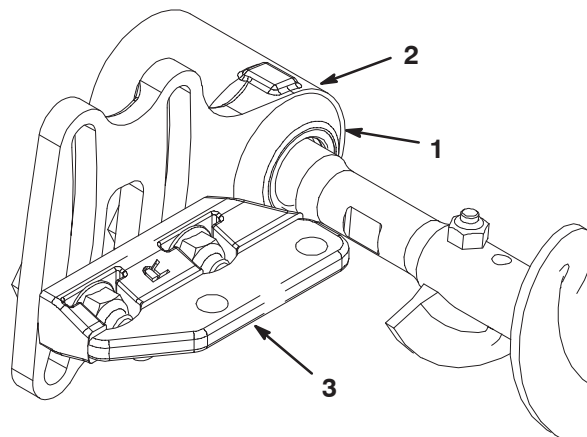

Figure 24
10. Slide each excluder seal outward until the lip seals are in light contact with each bearing housing (Fig. 24).